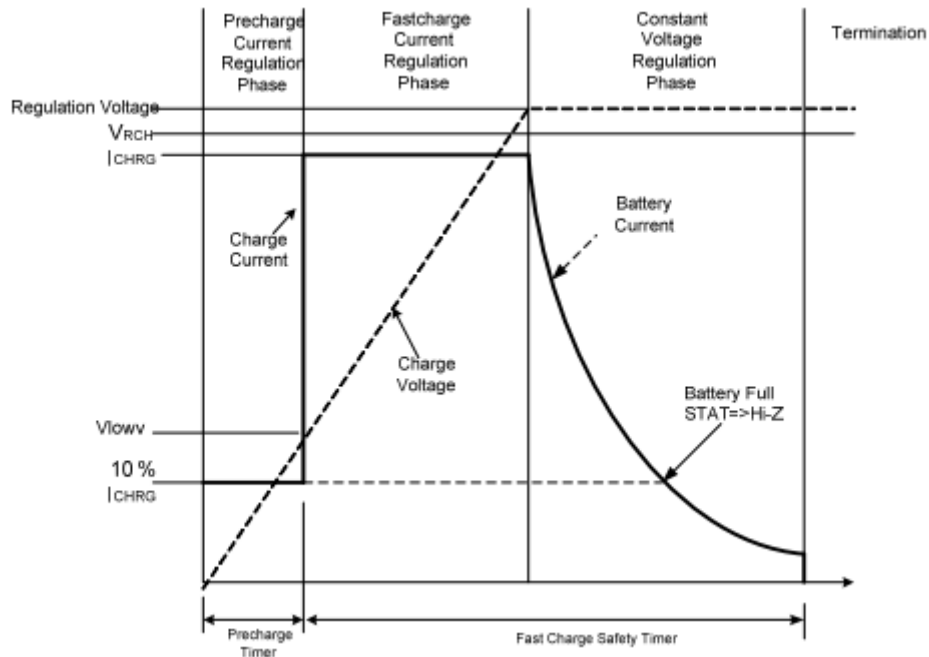

Figure 2. EC49020 Typical Charge Profile
The EC49020 family is an integrated charger optimized for charging 1-cell Li-ion or Li-polymer batteries. It charges a battery with constant current (CC) and constant voltage (CV) profile. The typical charge profile is illustrated in Figure 2.